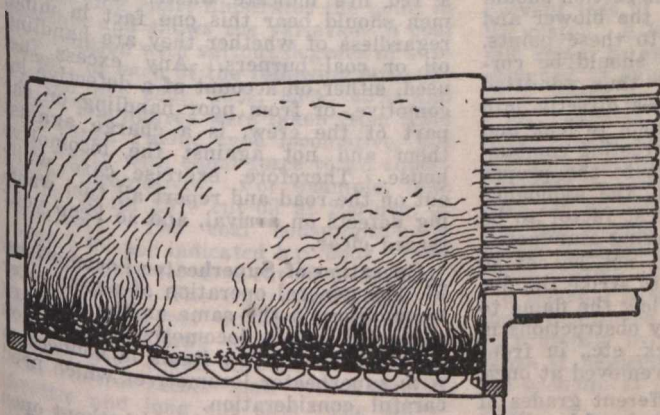

Fig. 9.
30. Fig. 9 shows the effect of a spot or hole in the firing. The admission of a large volume of cold air through such spots causes a serious chilling effect.